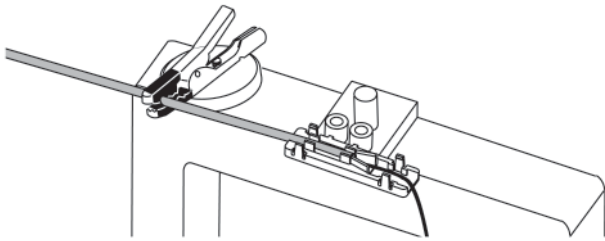

Figure 11
6.8 Position the buffer tube so that its end is within the crimp tabs of the BTF bottom (Figure 11).